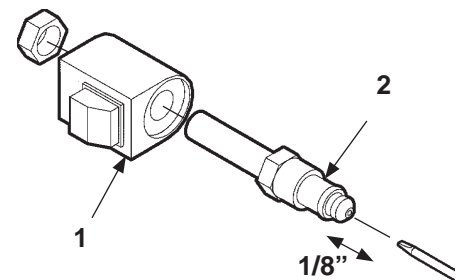

FIG. 71-2
3. Check if solenoid valve is getting power by holding a screwdriver against the top nut of the solenoid. Push control switch to "lower" position to energize solenoid (**FIG. 71-2**). A good solenoid will attract (magnetically) the screwdriver to the nut and make it difficult to pull the screwdriver away from the nut.
4. Check the valve stem by removing the coil assembly (**Item 1, FIG. 71-2**). With platform supported, unscrew the valve stem (**Item 2, FIG. 71-2**) from the pump. Push on the plunger located inside the valve stem by inserting a small screwdriver blade in the end. If the plunger does not move freely (approximately 1/8"), replace the valve stem.